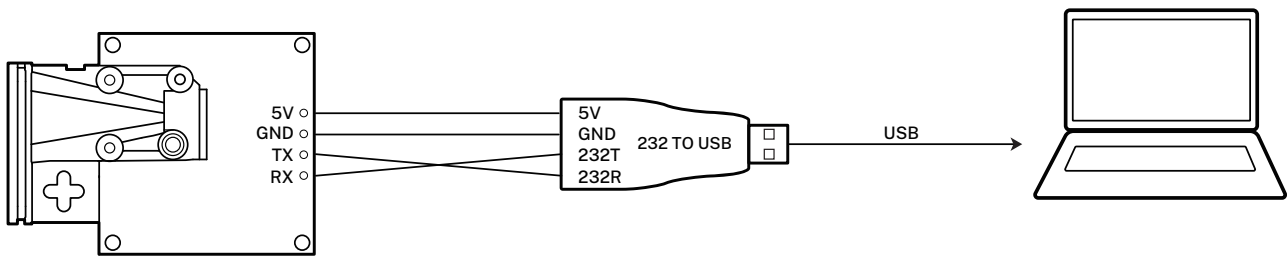

Figure 2. L4 to USB wiring diagram
1. As shown in Figure 2, the 5V and GND of the sensor are connected to the 5V and GND of the 232 to USB converter respectively.